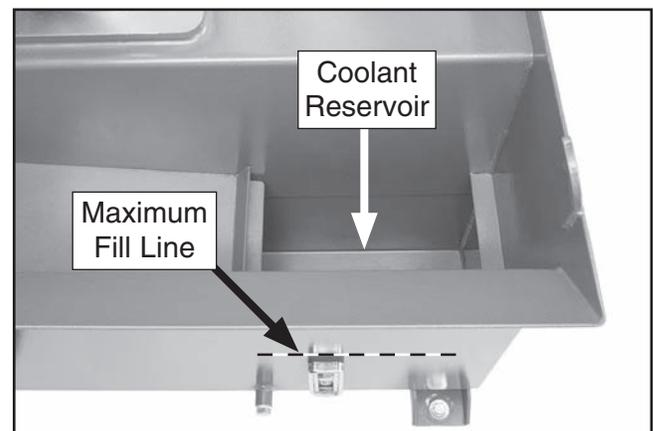

Figure 73. Approximate maximum fill line.
4. Fill reservoir with coolant until it is at the maximum fill line shown in **Figure 73**. Fill line is just above top hex bolt that secures thermometer to machine base.